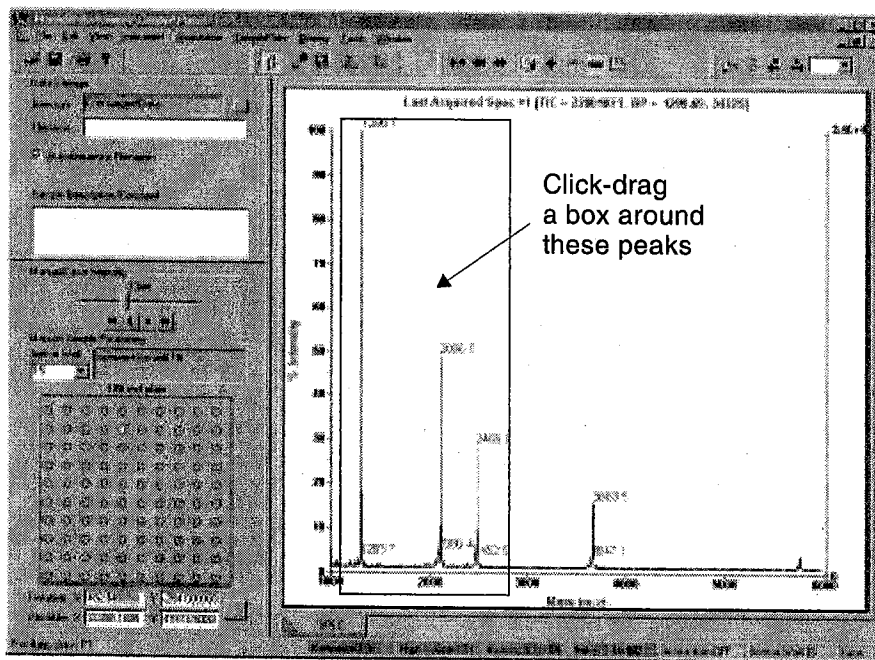

Figure 4-9 Zooming on Peaks
2. Hold down the **left mouse button** and click-drag a box around the area to zoom. Make sure to click-drag within the Spectrum window (Figure 4-9).